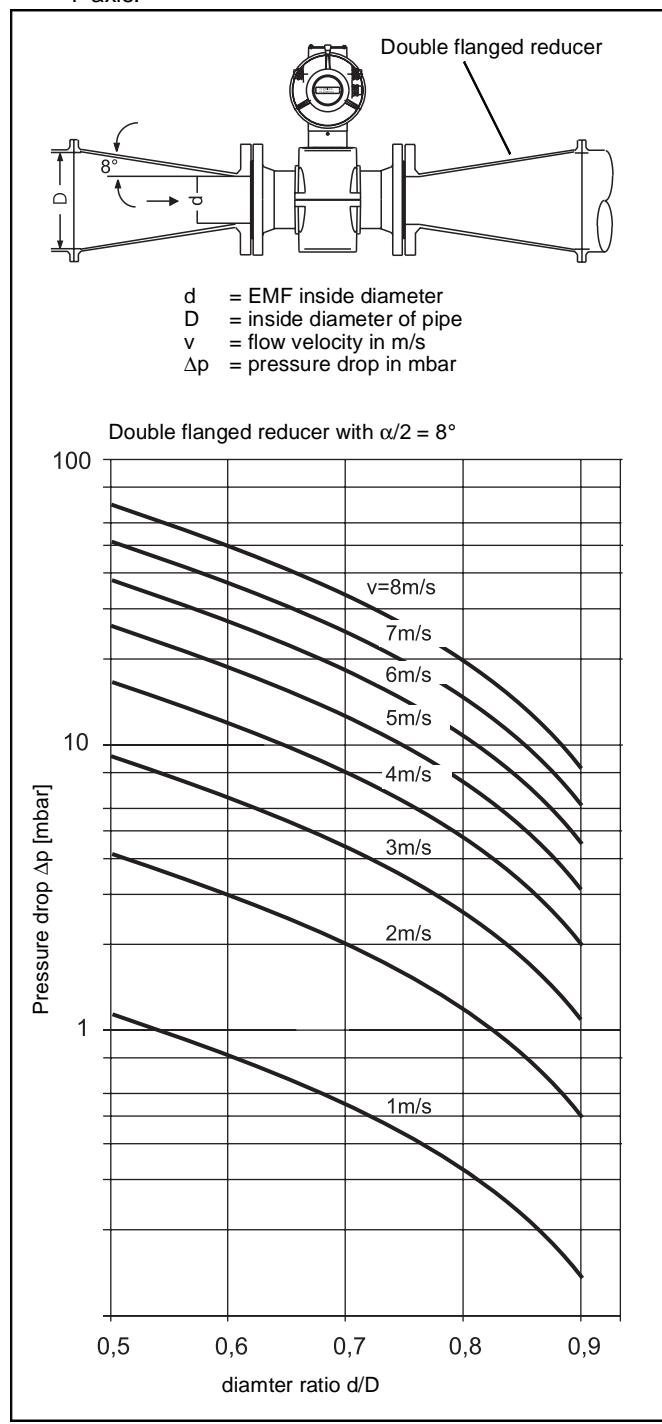

Fig.7 Pressure drop nomograph
The flowmeter may be installed without concern in pipelines larger than the flowmeter through use of double flanged reducers (e.g. per DIN 28545). The resultant pressure drop caused by the reducer can be determined from the diagram in Fig. 7. The following procedure is to be used to determine the pressure drop:
- In Fig. 7 at the intersection of diameter ratio d/D (X-axis) and the flow velocity value read the pressure drop on the Y-axis.